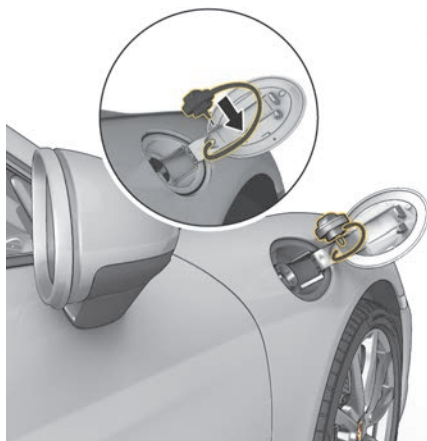

Fig. 180: Opening the fuel cap
3. Put the fuel cap into the holder (Fig. 180).